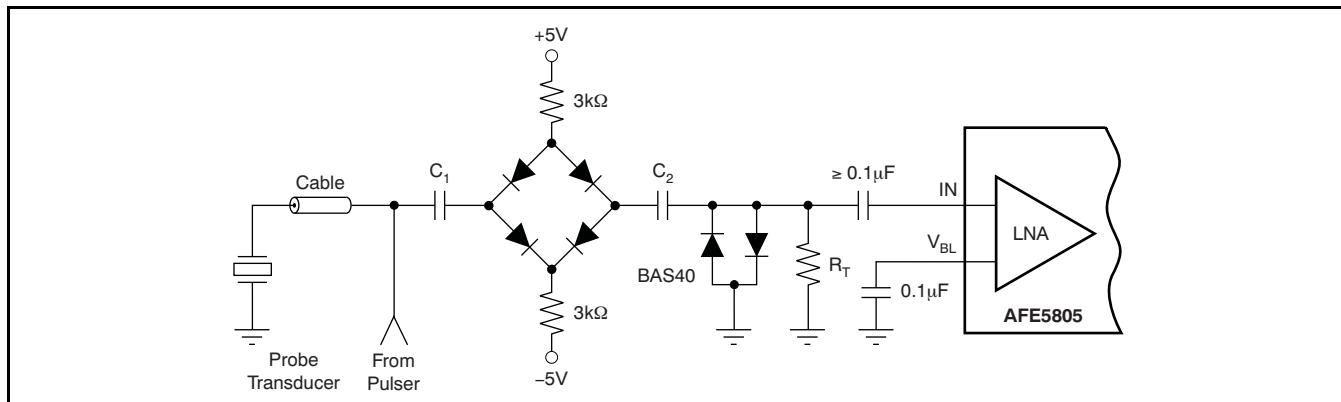

Figure 51. Typical Input Overload Protection Circuit of an Ultrasound System
The AFE5805 is designed in particular for ultrasound applications where the front-end device is required to recover very quickly from an overload condition. Such an overload can either be the result of a transmit pulse feed-through or a strong echo, which can cause overload of the LNA, PGA, and ADC. As discussed earlier, the LNA inputs are internally protected by a pair of back-to-back diodes to prevent severe overload of the LNA. Figure 51 illustrates an ultrasound receive channel front-end that includes typical external overload protection elements. Here, four high-voltage switching diodes are configured in a bridge configuration and form the transmit/receive (T/R) switch. During the transmit period, high voltage pulses from the pulser are applied to the transducer elements and the T/R switch isolates the sensitive LNA input from being damaged by the high voltage signal. However, it is common that fast transients up to several volts leak through the T/R switch and potentially overload the receiver. Therefore, an additional pair of clamping diodes is placed between the T/R switch and the LNA input. In order to clamp the over-voltage to small levels, Schottky diodes (such as the BAS40 series by Infineon®) are commonly used. For example, clamping to levels of
As Figure 51 shows, the front-end circuitry should be capacitively coupled to the LNA signal input (IN). This coupling ensures that the LNA input bias voltage of  $+2.4V$  is maintained and decoupled from any other biasing voltage before the LNA.
Within the AFE5805, overload can occur in either the LNA or the PGA. LNA overload can occur as the result of T/R switch feed-through; and the PGA can be driven into an overload condition by a strong echo in the near-field while the signal gain is high. In any case, the AFE5805 is optimized for very short recovery times, as shown in Figure 51.